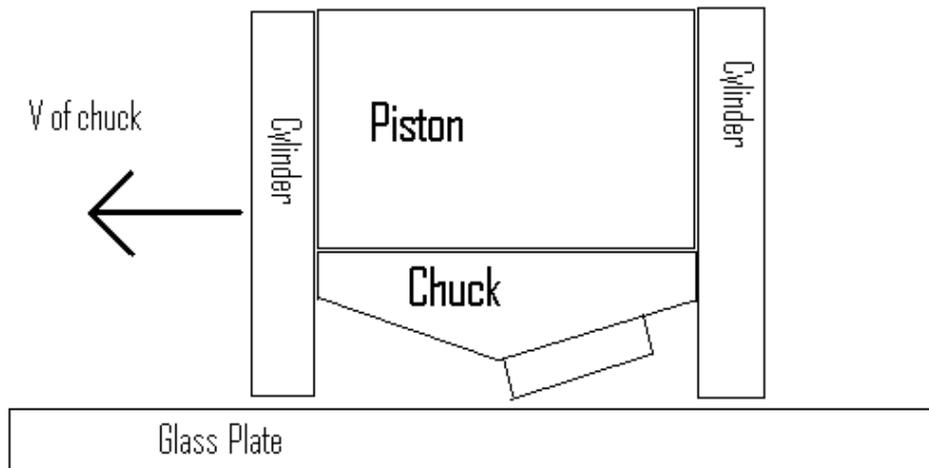

Fig. 3: Polishing direction.
4. Mount the bevel on the lapping/polishing jig, and mount the jig on the arm of the circular track polisher. Pull the piston up, partly out of the cylinder, and position the jig so that the bevel is tangential to the circular motion (i.e. bevel edge in the radial direction). See Fig. 3 for more details.